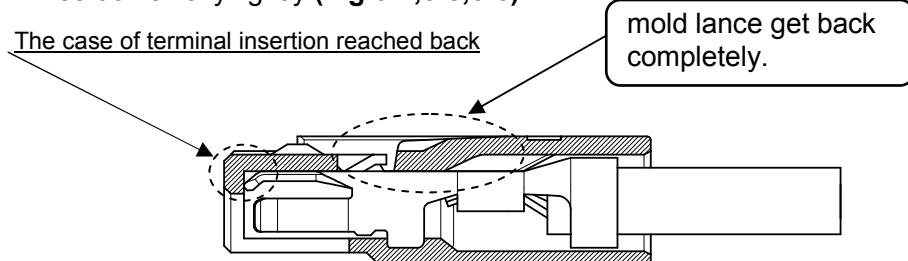

Fig.6-4 The case of correct insertion
- ⑤ After inserting all terminals, please confirm the position of terminal lance part by seeing through window of receptacle mold lance. If they are inserted correctly, terminal lance is at the position where terminal lance get over mold lance properly and you can confirm clearance by shaking them insertion axially lightly. (Fig.6-4,6-5,6-6)